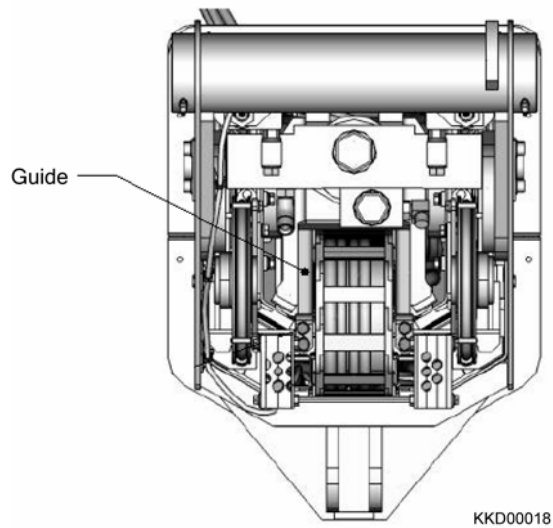

Fig. 2-47
22) Take the guide fixed to the tail end of 3rd boom section off. (Fig. 2-47)